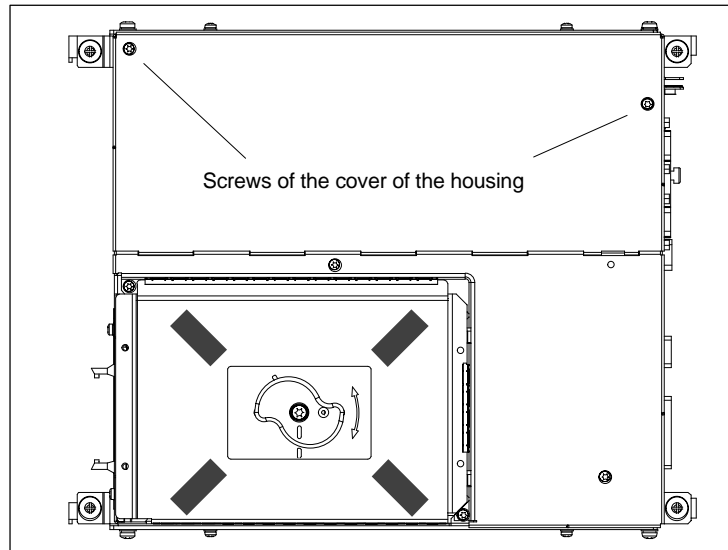

Fig. 2-15 Cover of the housing of the PCU 50
3. Remove the screws from the cover of the housing (Fig. 2-15) and open the housing of your PC, observing the relevant safety regulations.